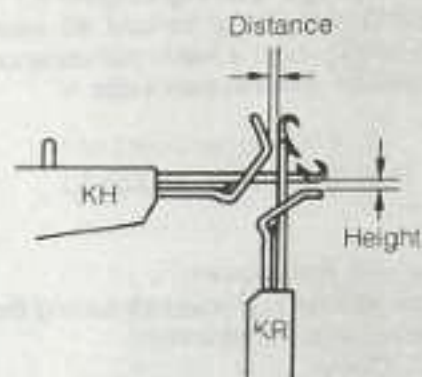
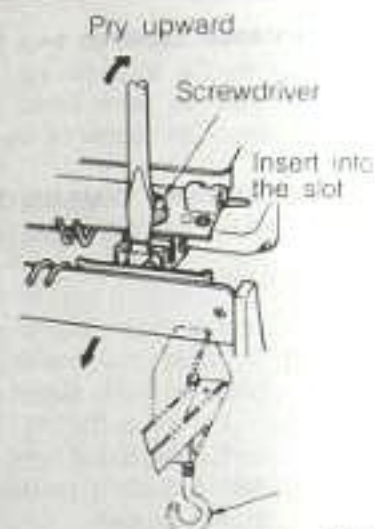

Fig.6
Fig.7
2.1 Standard dimension (See Fig.6)
- (1) Loosen a little the table clamps and the thumb screws of setting plates R and L.
- (2) Pull the ribber toward you.
- (3) Insert the slotted screwdriver into the slot of setting plates and pry upward to widen the slot for the adjustment like the Fig.7 and Fig.9.
- (4) After the adjustment, push the ribber to the knitter to attach correctly and fasten the thumb screws of setting plates, and table clamps.
- (5) Check the distance referring Fig.6.
- (3) After the adjustment, fasten the thumb screws of setting plates and table clamps.
- (4) Check the distance referring Fig.6.